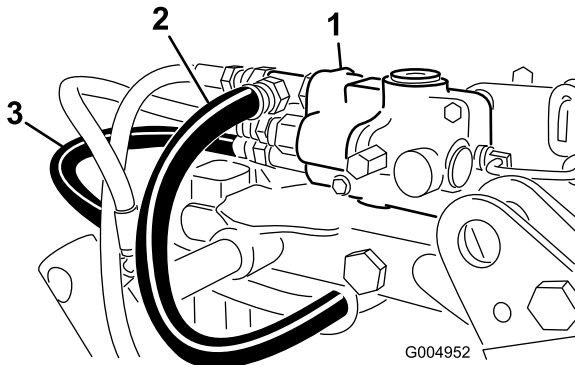

Figure 91
35. Route and connect the hydraulic pressure and tank hoses to the valve (Figure 91).